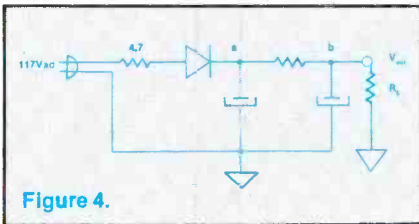

Figure 4.
6. The purpose of the 4.7Ω resistor in Figure 4 is
7. The output voltage of the supply in Figure 4 should be about
8. In the circuit of Figure 4 you will find the audio power amplifier connected to which point?